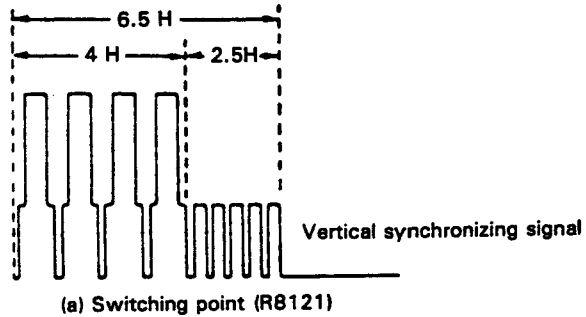

Figure 2-2.
2. Using the puls (-) trigger slope of the oscilloscope, adjust R8121 (SW POINT) to provide a waveform of $6.5 \pm 0.5 H$ as shown in Fig. 2-2.